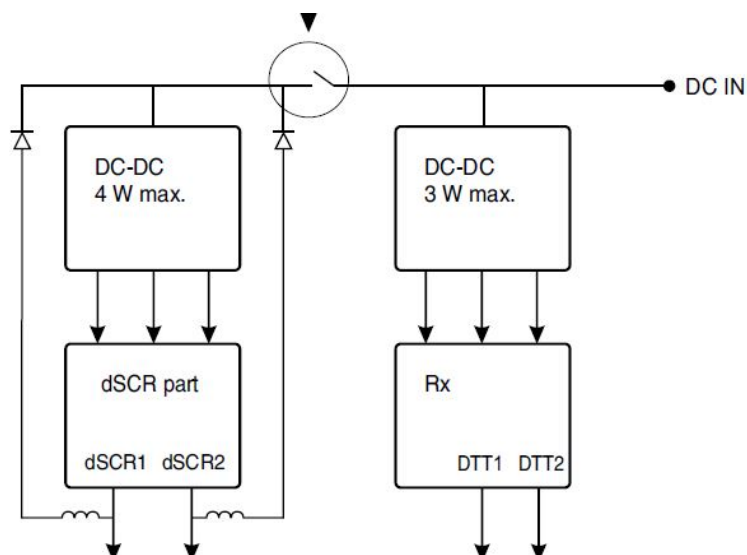

Figure 2. DC path diagram
8. dSCR part powering mode switch (see Figure 2):
- Through dSCR outputs (pos. 3, 4)
- Through DC IN (pos. 9)
The receiver can be powered in two ways: from AC/DC adapter through 3.5/1.3 DC connector (pos. 9, Figure 1) or through RF outputs (pos. 3, 4 Figure 1). Use switch (pos.8 Figure 1) to select the correct powering mode (see Figure 2).